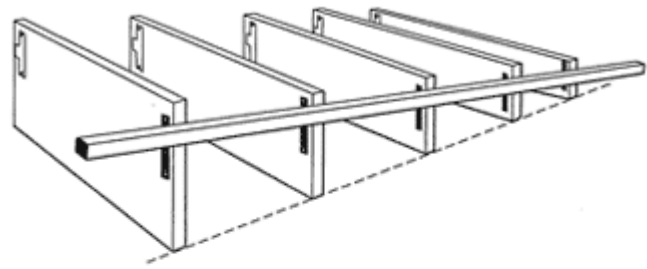

Figure 2
3. Continue adding progressively smaller shelves to the right side until all five are attached with the smallest shelf on top (Figure 2).